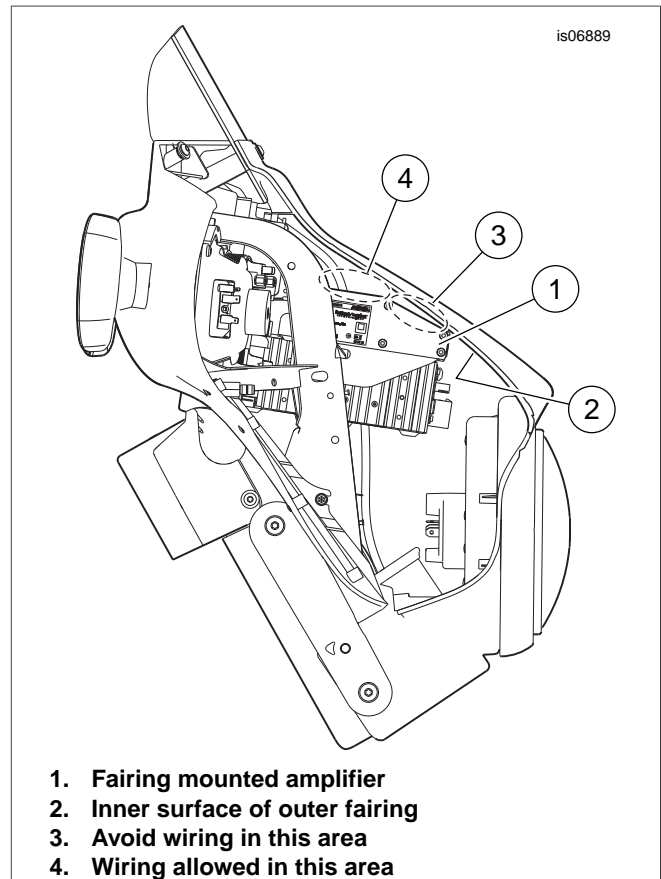

Figure 3. Fairing Mounted Amplifier Wiring Clearances
See Figure 3. Routing wires and conduit over the amplifier (1) and radio **near the front (headlamp) side** (3) will make installation of the outer fairing (2) difficult due to tight clearance.
15. Route the amplifier and radio harnesses rearward along the side of the radio and amplifier or the area above the amplifier nearest the inner fairing (see Figure 3, area 4). Use cable straps from the kit to fasten the amplifier and radio harnesses to existing harnesses inside the fairing.